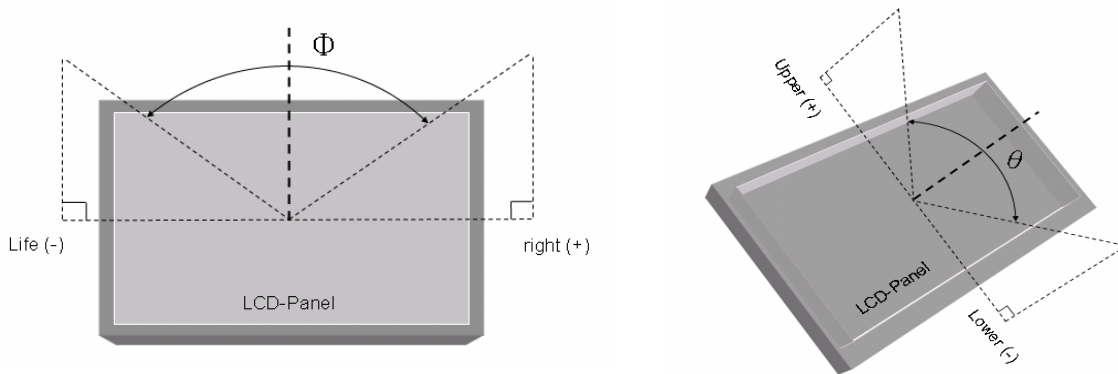

Fig8-2 Definition of Viewing Angle
*4) Definition of Viewing Angle(θ, ψ), refer to Fig8-2 as below